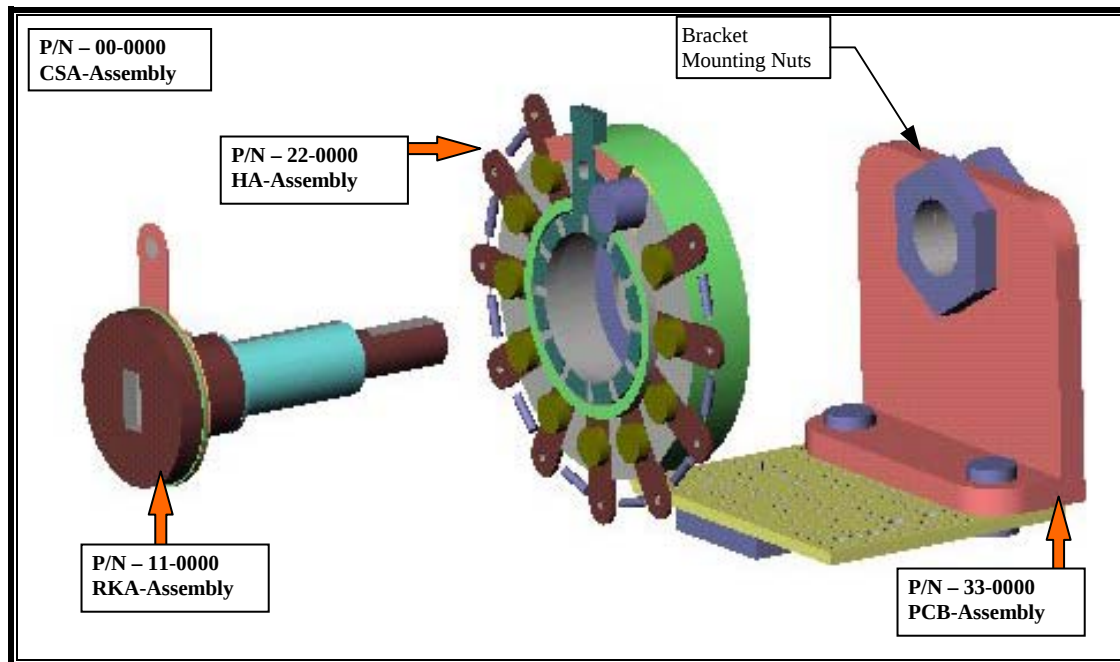
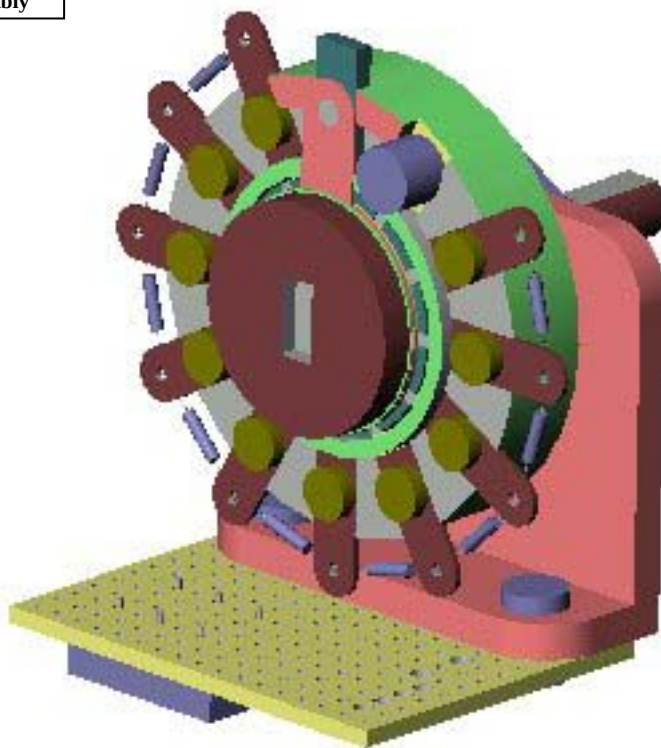

Figure 6: Contact Switch Assembly – Exploded View
Figure 7: Contact Switch Assembly
9.4 Contact Switch Assembly (00-0000) (Refer to **Figure 6** & **Figure 7**):